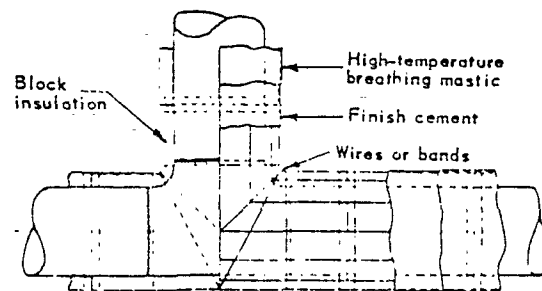

FIGURE 7
7.2. Welded fittings and valves 3 inches and larger shall be insulated with block or pipe insulation at least equal in thickness and in the same number of layers as adjacent pipe insulation. See Figures 7 and 8.